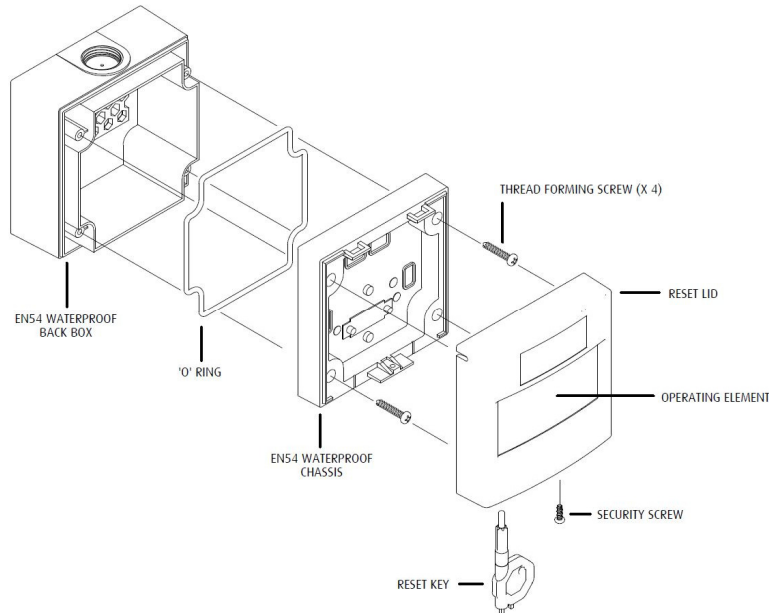

Figure 1
- Insert the "O" Ring into the Red section of the Call Point as shown in Figure 1 below.
- Fasten the Waterproof Chassis to the Back Box, then fit the Reset Lid to the unit, as shown in Figure 1, using the screws provided.
- To Reset the Call Point, Insert the Reset Key where shown in Figure 1 and turn anti-clockwise until it Clicks and the Yellow/Black flag has retracted from view.